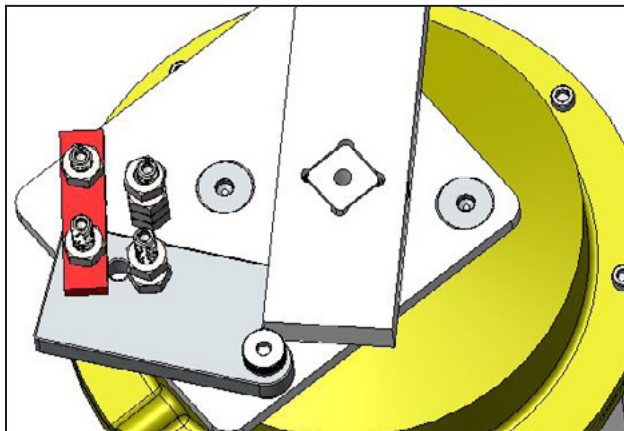
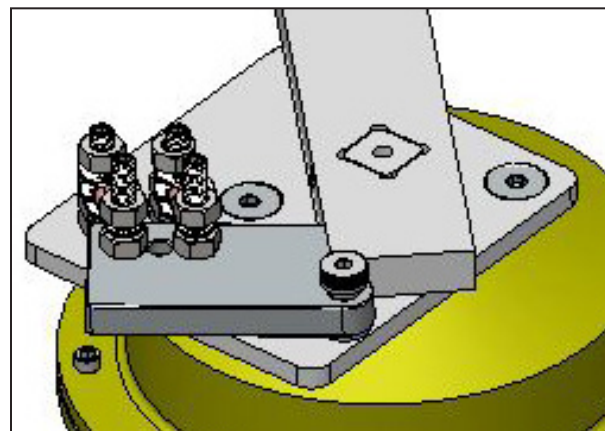

FIG 3
FIG 4
**NOTE: PLEASE REFER TO ASSEMBLY DRAWING FL-MW-0600 (FIG. 4) FOR PARTS IDENTIFICATION AND A COMPLETE PARTS LIST (TABLE 2).**
1. Remove  $\frac{1}{4}$ " x 20 nuts (10) on link retaining studs (11) securing red safety link. See Fig. 3.
2. Attach  $\frac{3}{4}$ " (19mm) socket fully to male hex portion (12) of the tripper (5) turning counter clockwise (CCW).
6. Remove breaker bar from tripper (5). The unit is now properly armed.
7. Add  $\frac{1}{4}$ " x 20 nuts to retaining studs. (10). Fig. 4